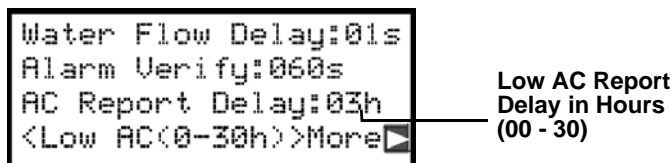

Figure 9.10 Low AC Report Delay Programming Screen
8. Enter the number of hours (0-30) before a low AC report will be sent to the central station, then press ENTER. Refer to Figure 9.10.